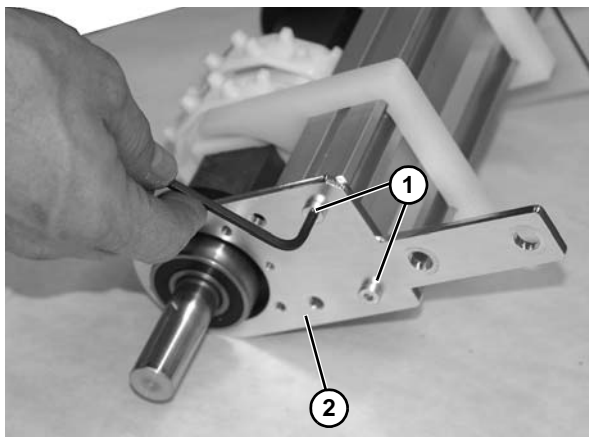

Figure 53
9. Remove two socket head screws (**Figure 53, item 1**) from drive backing plate (**Figure 53, item 2**).